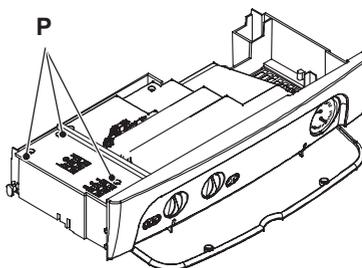

Fig. 6.12
- Loosen the screws P and remove the service panel (Fig. 6.12).